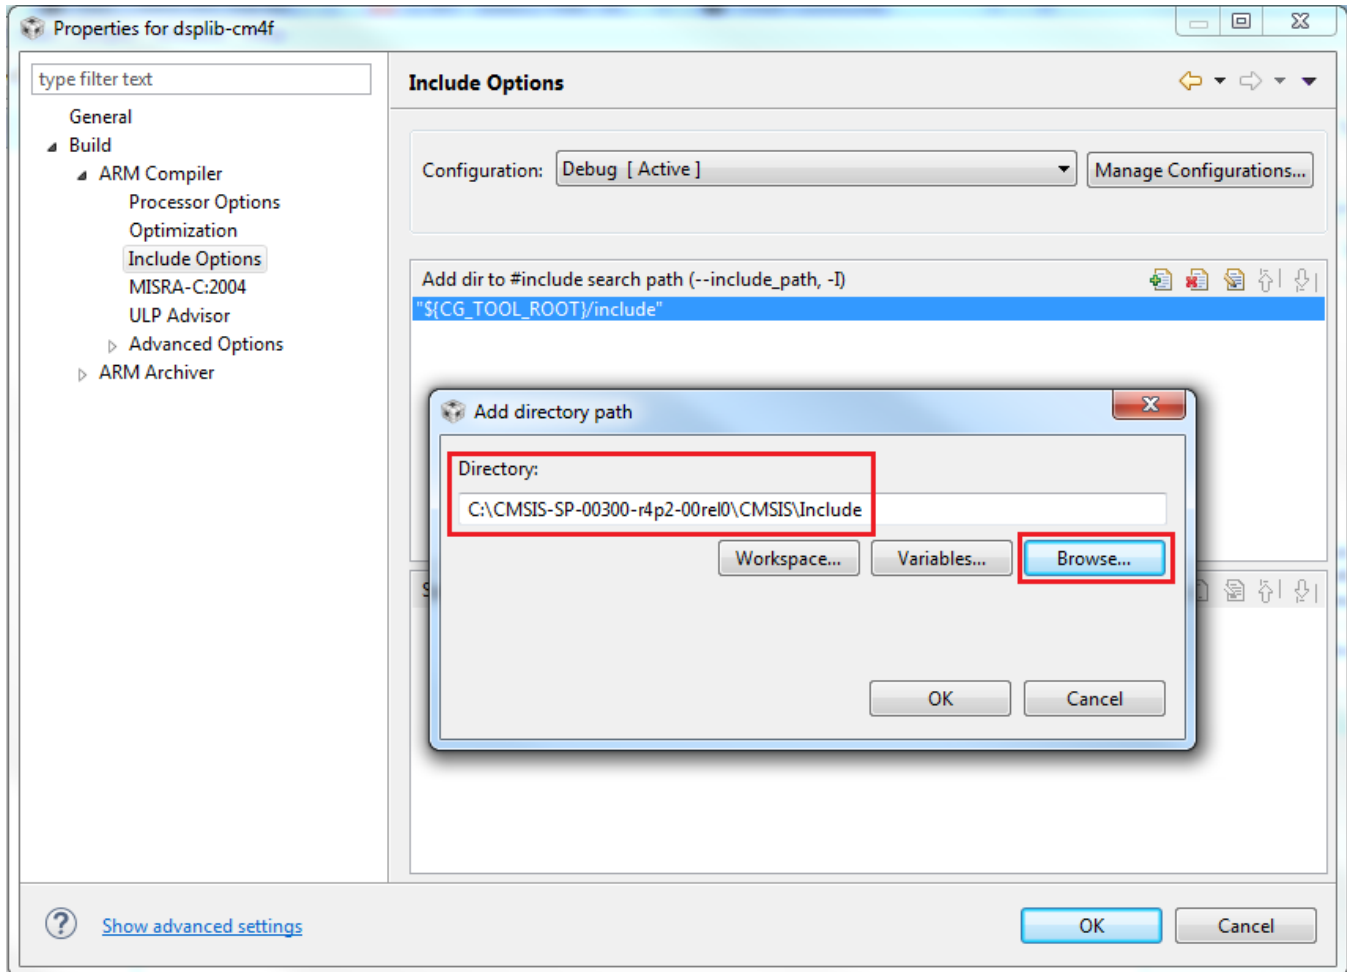

Figure 9. Adding the CMSIS Top Level Include Directory to the Compiler's #include Search Path
8. Add the DSP library CMSIS-<version>/CMSIS/Include directory to the compiler's include path in the Include Options panel. This is done by pressing the *Add* button by the *Add dir to #include search path (--include_path, -I)* (see Figure 9), then either typing in the path to the CMSIS Include directory or clicking *Browse* and navigating to the Include directory (CMSIS-<version>/CMSIS/Include).